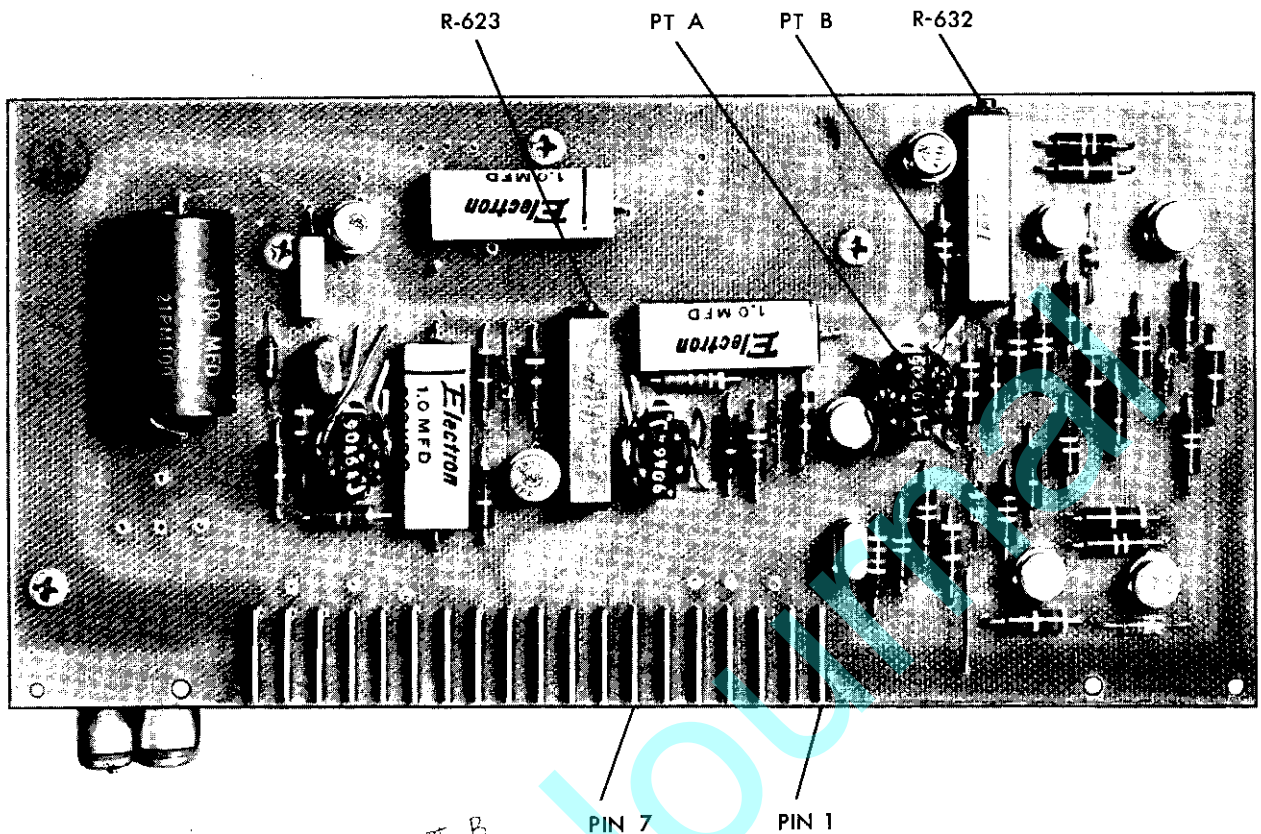

Figure 5-3. Amplifier, Component Side.
1. Connect oscilloscope to amplifier as follows: (see Fig. 5-3).